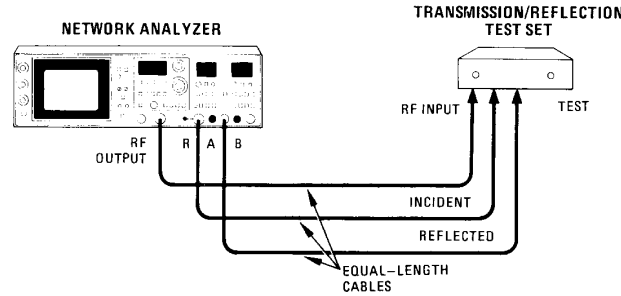

Figure 4-8. Input Port Match Test Setup (B and R INPUT Ports)
Equipment listed is for two test setups, Figures 4-8 and 4-9.
1. Connect equipment as shown in Figure 4-8. Set the test set RF INPUT ATTENUATION dB switch to 10 and set the controls of the network analyzer as follows: